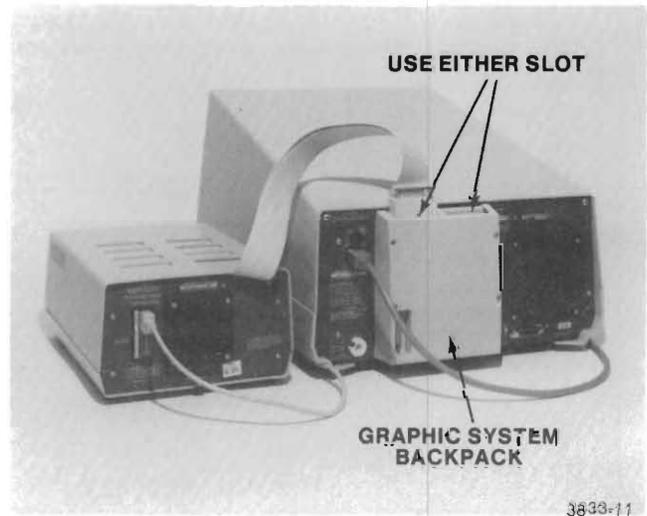

Figure 3-4. Connecting the ROM Expander Interface.
4. Insert the ROM Expander Interface (with its instruction label facing the front) into one of the Graphic System backpack slots (Figure 3-4). Press downward while rocking the Interface slightly from side to side until its edge is firmly seated in the slot. (With the optional four-slot backpack, the label should face to the right.)